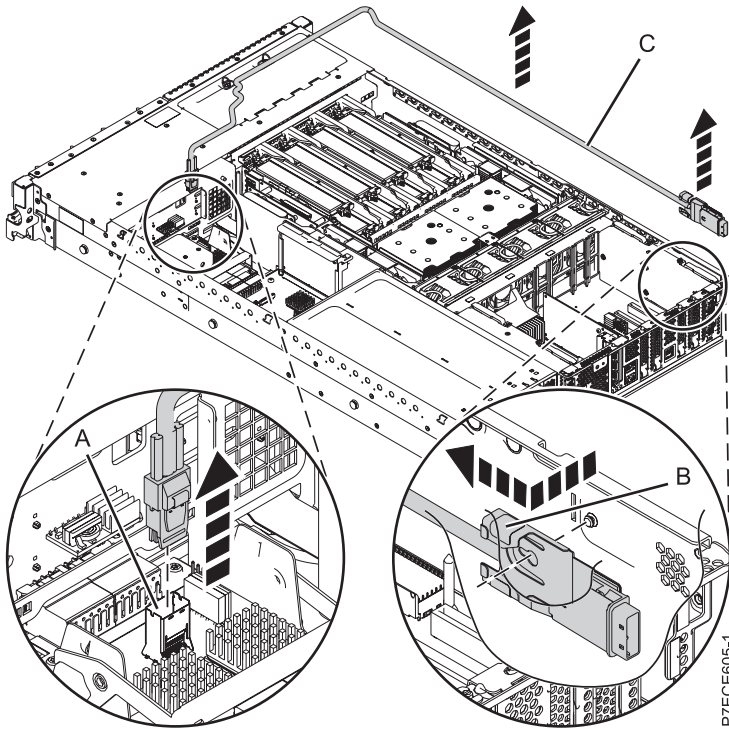

Figure 28. Removing the external SAS port
9. Pull the cable bracket at the blue touch point (B) and slide the SAS cable out of the external SAS port opening in the rear of the chassis. See Figure 28 on page 48.
10. Pull out the SAS cable (C) from the system.
11. Squeeze the latch on the SAS connector (A), and then pull the cable out of the shroud on the system interposer card.